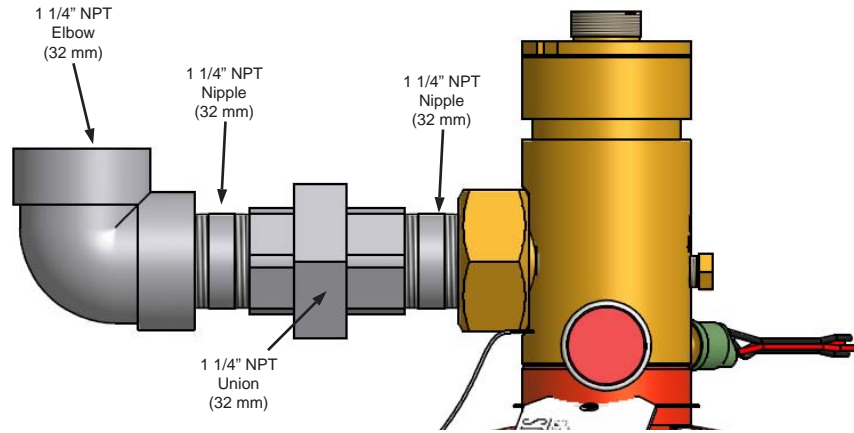

Figure 2.2.5.1 Sv Series Fittings
The fittings for the Sv Series discharge outlet are to be supplied by the installer. The suggested fitting arrangement is shown in Figure 2.2.5.1 and is used to extend the discharge outlet and facilitate the attachment of discharge piping.
2.2.5.2 Mv Series Fittings (See Figure 2.2.5.2 for P/N)